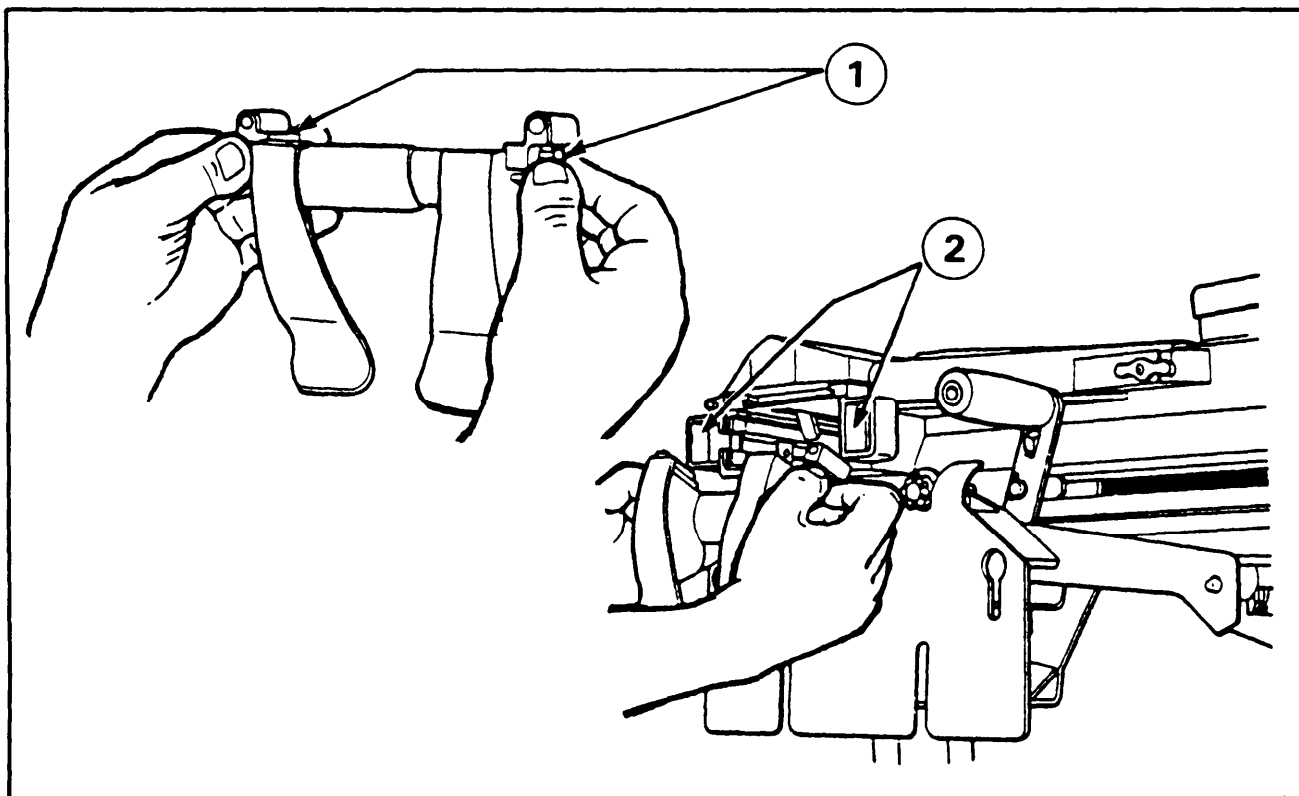

Figure 2-21. Attachment of feed throat.
Before loading, attach the feed throat (Figure 2-21) by squeezing the spring-loaded pins on the feed throat (1); insert the feed throat on both sides of the feeder (2). Make sure that the feed throat points down.